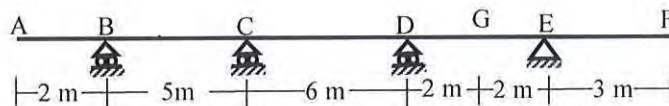

Fig.7
7. (i) Draw the qualitative influence lines of the beam shown in **Fig.7**. [05]
(ii) Analyze the beam to calculate the maximum value of R_E , if the beam (**Fig.7**) is subjected to a uniformly distributed dead load of 20 kN/m, moving live load of 25 kN/m and 100 kN concentrated load [Given: $EI = \text{constant}$]. [10]